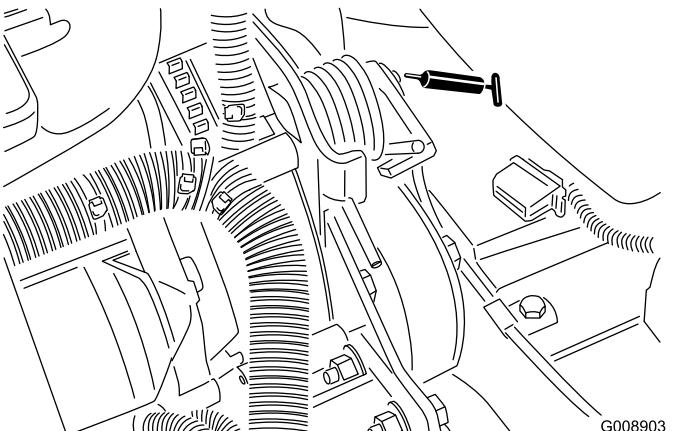

Figure 53
- Belt tension pivot (Figure 53)